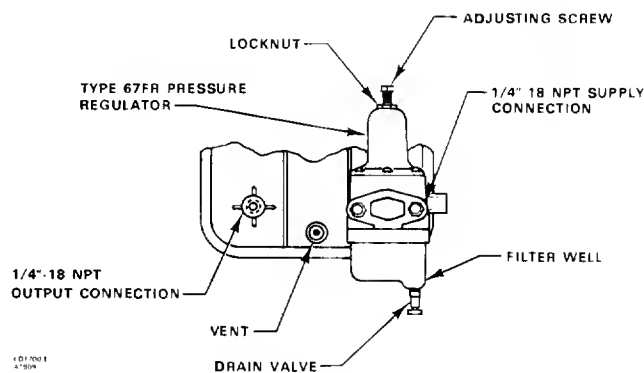

Figure 9. Pressure Connections
The output pressure connection is on the back of the controller/transmitter case (figure 9). Pipe the supply pressure to the IN connection of the regulator mounted to the case back. Provide a clean, dry, and noncorrosive air or gas supply to the controller/transmitter as follows:
1. Turn on the supply pressure and check that the SUPPLY gauge reads 20 psig for a 3 to 15 psig or 35 psig for a 6 to 30 psig output pressure range. If necessary to adjust the Type 67FR regulator, loosen the locknut (figure 9) and turn the adjusting screw clockwise to increase or counter-clockwise to decrease pressure. Be sure to tighten the locknut after setting the pressure.
1. Turn on the supply pressure and check that the SUPPLY gauge reads 20 psig for a 0 to 20 psig or 35 psig for a 0 to 35 psig output pressure range. If necessary to adjust the Type 67 FR regulator, loosen the locknut (figure 9) and turn the adjusting screw clockwise to increase or counter-clockwise to decrease pressure. Be sure to tighten the locknut after setting the pressure.
1. Turn on the supply pressure. If necessary to adjust the Type 67FR regulator to produce the desired differential gap, loosen the locknut (figure 9) and turn the adjusting screw clockwise to increase or counterclockwise to decrease pressure. Be sure to tighten the locknut after setting the pressure.